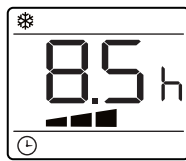

Figure 2
- Press the  button again, the timer will be active and the  symbol and  symbol are displayed on the screen. See Figure 2 below.